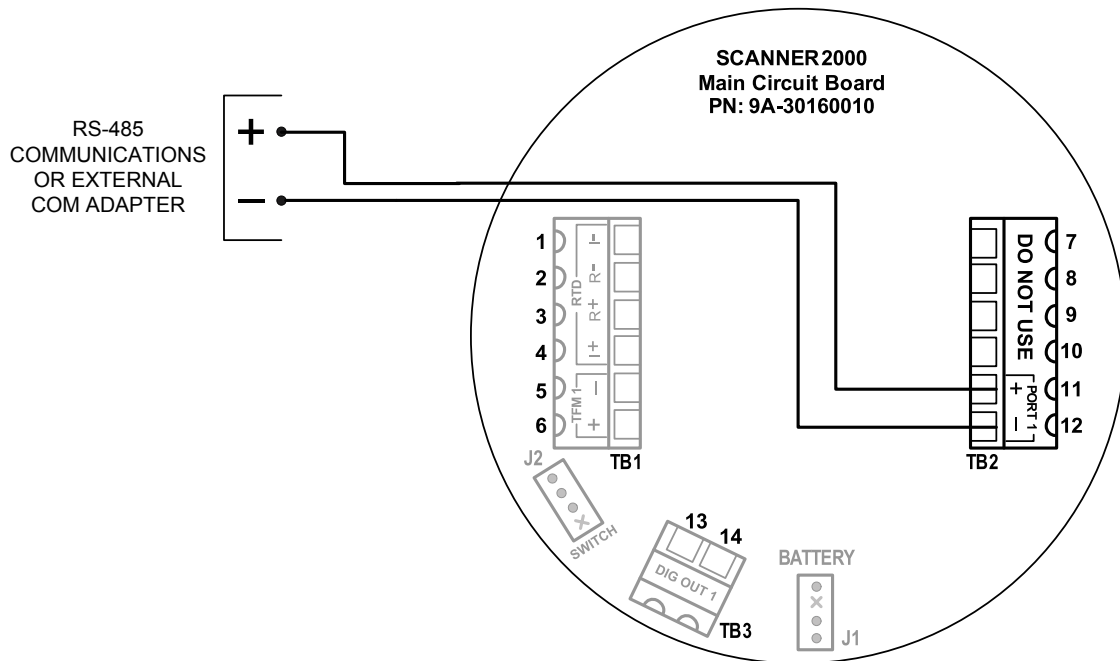

Figure 3.8—RS-485 output
- Connect the RS-485 communications wiring to TB2, if required. See Figure 3.8, page 53.
The RS-485 output is required for communication with the ModWorX Pro interface software. An RS-232 to RS-485 converter cable (Part No. 9A-101283116) is required for connecting the Scanner 2000 to an RS-232 PC port. Wire as shown in Figure 3.8.
An RS-232 to RS-485 converter is required for connecting the microEFM to a laptop or PC. The converters available from Cameron require no handshaking or external power to operate. See Section 7—Spare Parts for ordering information; see Figure 3.8, page 53, for wiring instructions.